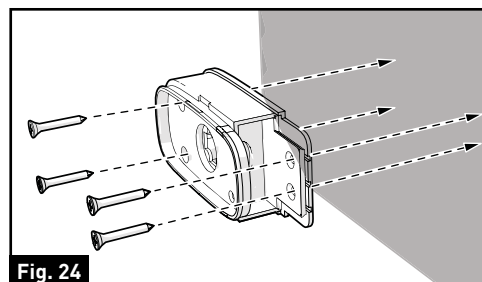

Fig. 24
5. Secure the traffic light base on the vehicle wall using the four flat self-tapping screws. (Fig. 24)